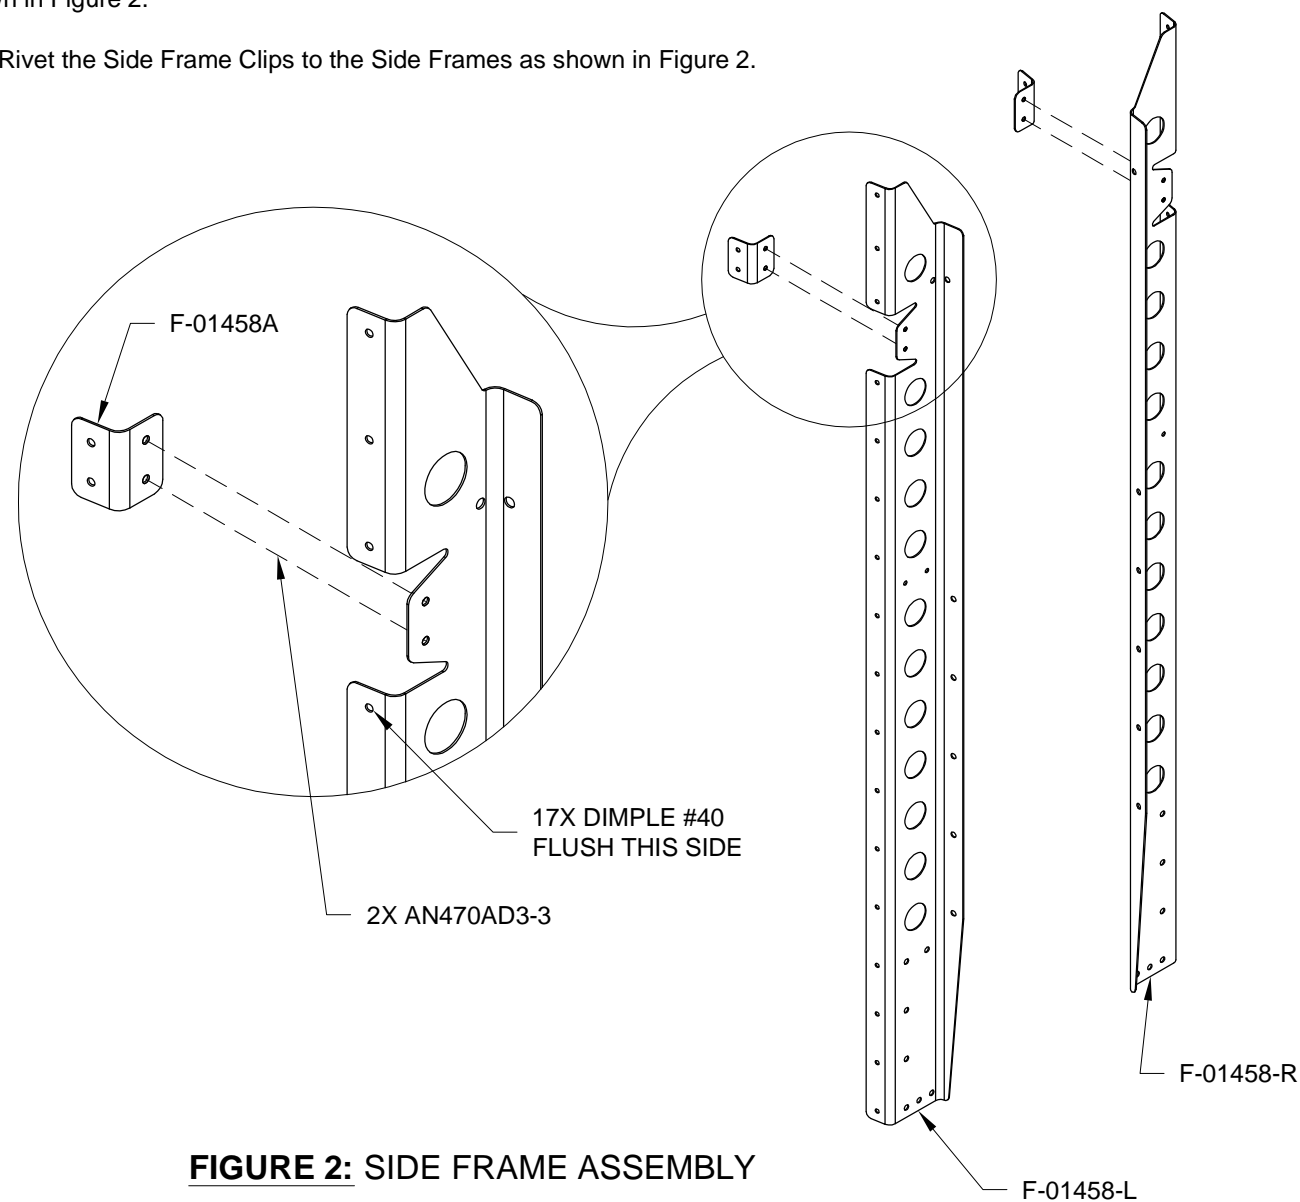

FIGURE 2: SIDE FRAME ASSEMBLY
Step 4: Dimple the #40 holes in the outboard flanges of the F-01458-L & -R Side Frames as shown in Figure 2.
Step 5: Rivet the Side Frame Clips to the Side Frames as shown in Figure 2.